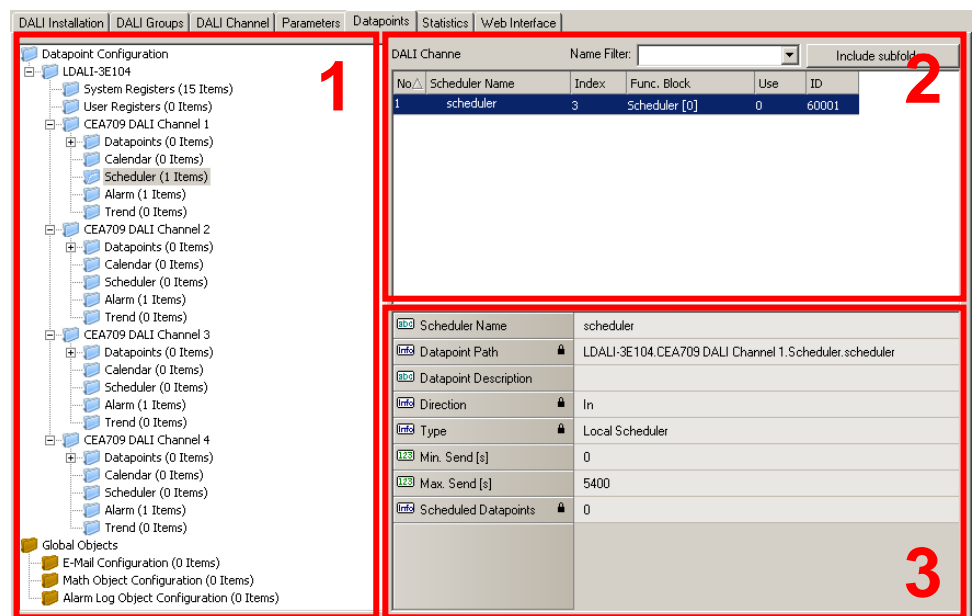

Figure 116: Data Point Manager Dialog.
The Configurator uses a central concept to manage data points. The data point manager is located on the **Datapoints** tab as shown in Figure 116. It is used to select, create, edit and delete user data points, calendar, scheduler, and trendlog objects, E-Mail templates, alarm logs, and math objects. The dialog is divided into three sections:
- The folder list (number 1 in Figure 116),
- The data point list (number 2 in Figure 116),
- And a property view (number 3 in Figure 116).